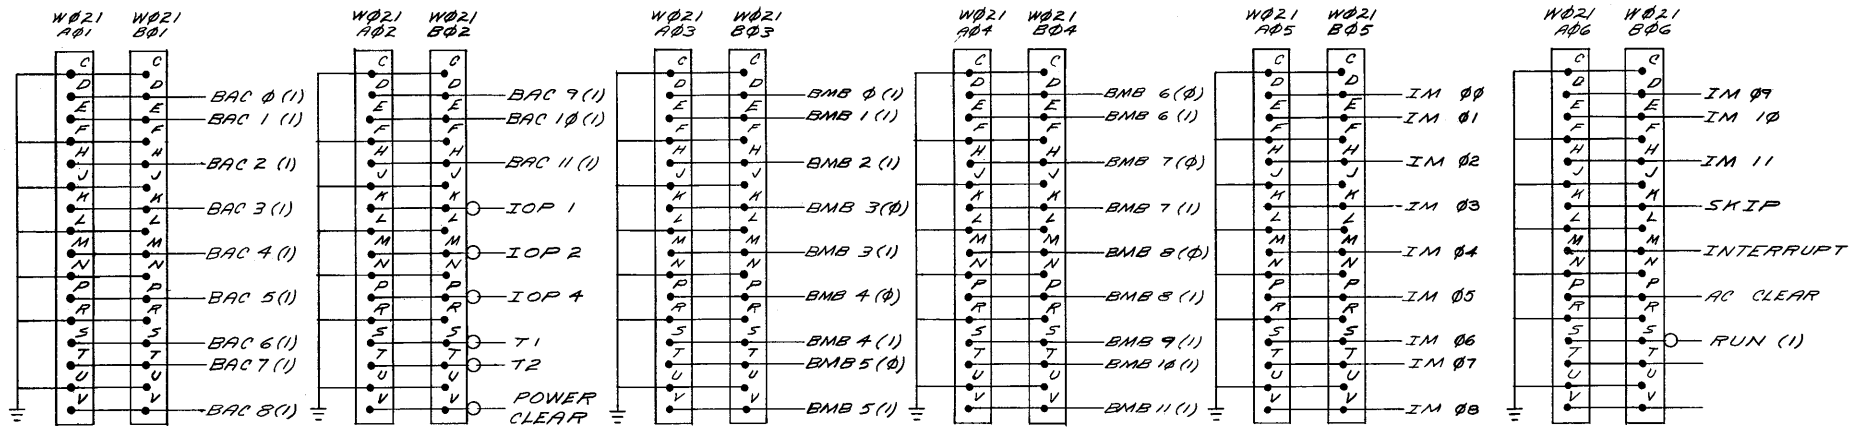

Figure 6-7 D-IC-AF16-0-7 I/O Connection Diagram
- Figure 6-7 I/O Connection Diagram (D-IC-AF16-0-7)